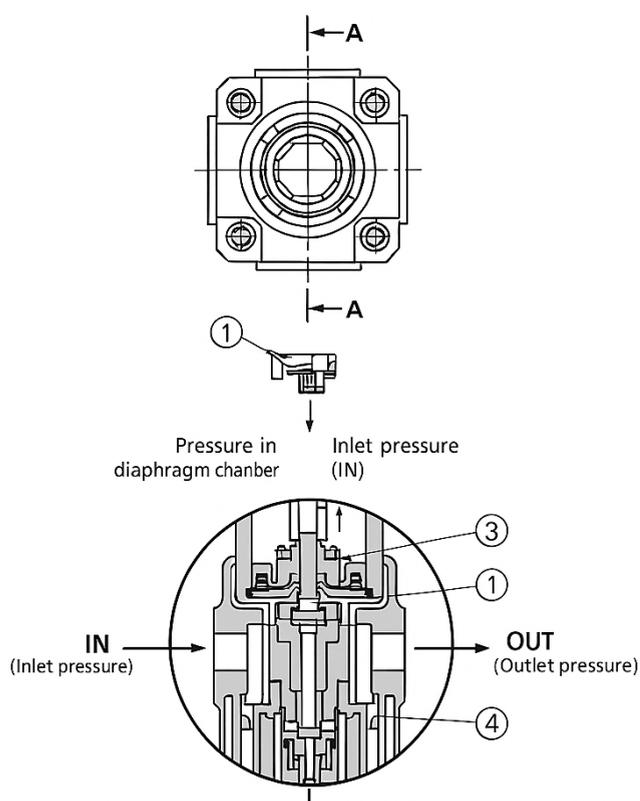

Figure 1 Normal
When the inlet pressure is higher than the regulating pressure, check valve (2) closes and operates as a normal regulator (**Figure 1**). When the inlet pressure is shut off and released, check valve (2) opens and the pressure in the diaphragm chamber (1) is released in the inlet side.
Fig. 1. In the control valve the pressure is reduced from P1 to P2, and the control keeps (P2-P3) constant at a set value, although the external pressures "P1" and "P3" or the resistance "R" may be fluctuating. Sizing of the valve is based on the smallest value of (P1-P2) with the maximum flow.